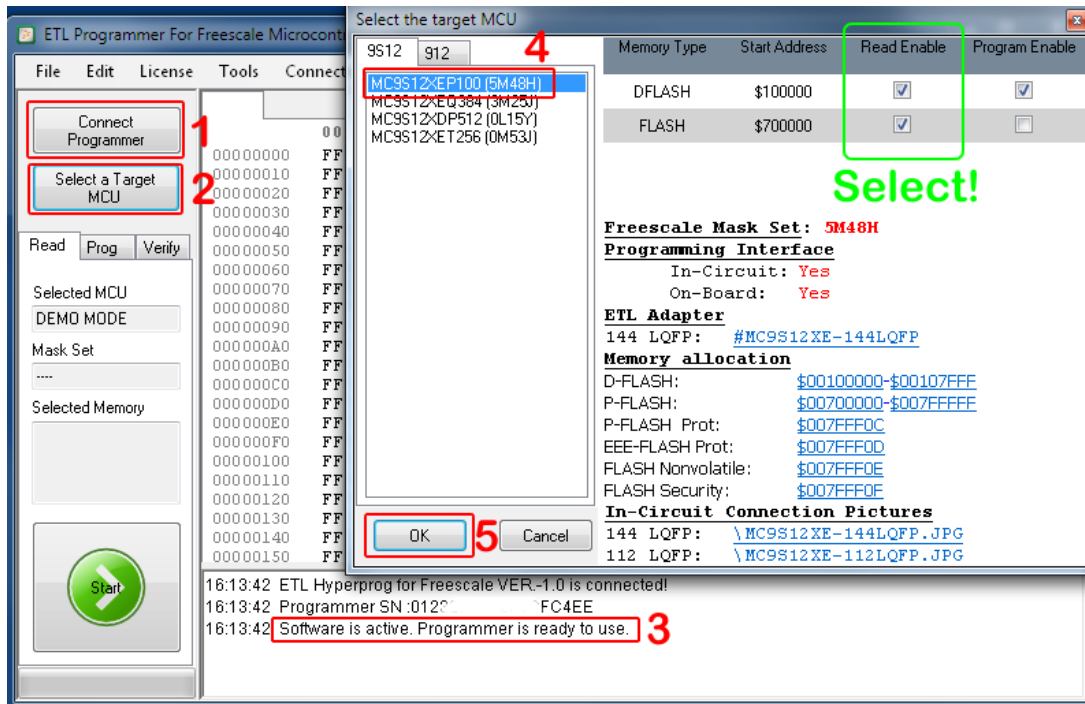

Figure 21 Select target device MC9S12XEP100 (5M48H)
- Execute the MC9S12(X)-Programmer software. Connect the ETL HYPERF PROG by pressing 'Connect Programmer' button. Make sure the Programmer is 'ready to use'. Select target device MC9S12XEP100 (5M48H) (Figure 21).